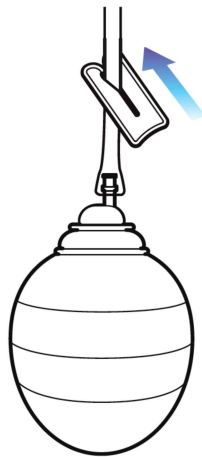

Figure 19: Occlusion of drainage in the closed wound drainage system
Step 6 – Use the tube clamp (packaged with *Origin™*) to clamp the flexible tubing and impede drainage into the evacuator as depicted by **Figure 19** below. Do not clamp the flexible tubing too close to the evacuator to facilitate the attachment of *Origin™* to the patient’s wound drain.